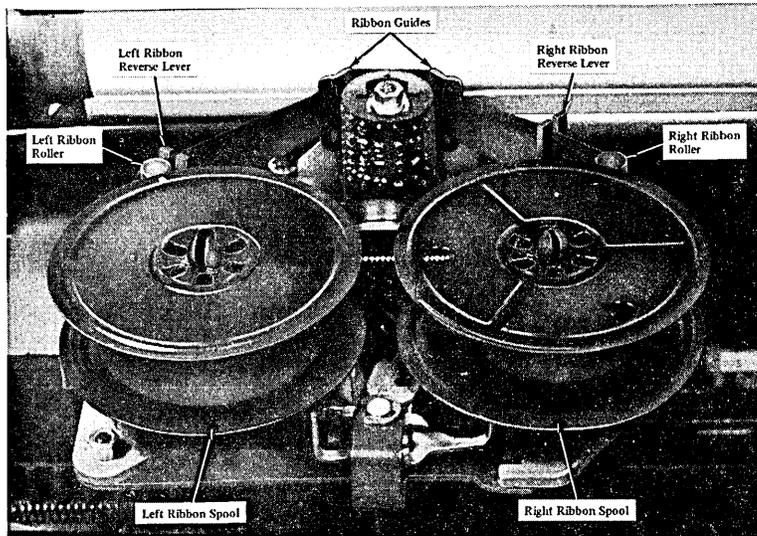

Figure 12. Type 33 ASR Ribbon Controls
3. Lift both ribbon spools (Figure 12) from their shafts.